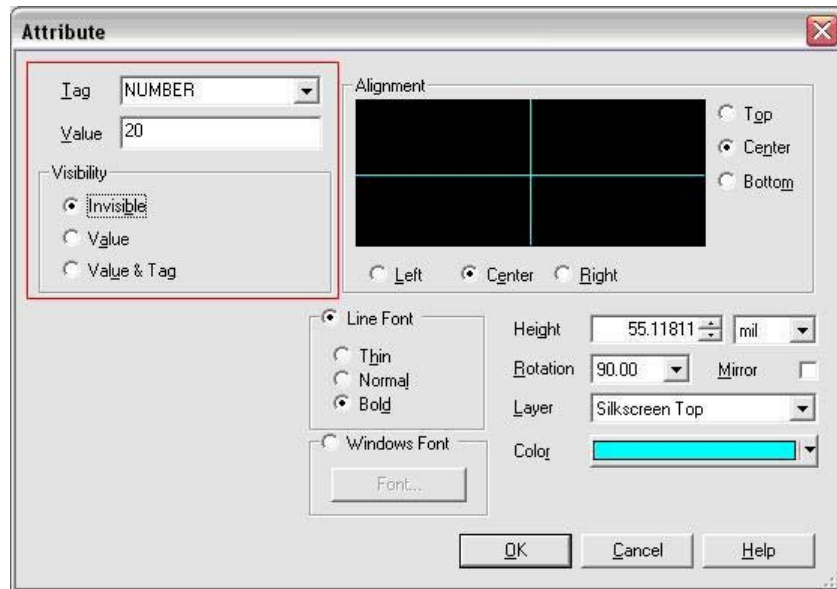

Figure 13 - SMD Pin Attributes
- e.) In the attribute dialog box, changing the **Value** field (red box in Figure 13) will change the value of the pin.